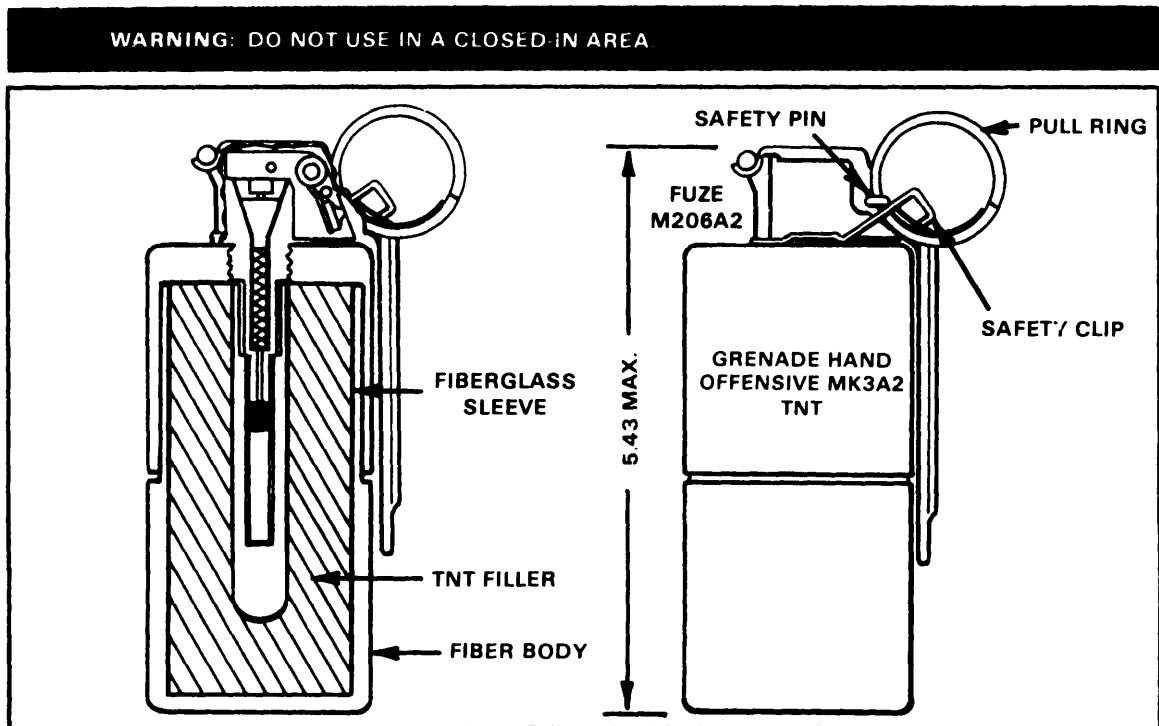

Figure 1-17. MK3A2 offensive grenade.
b. Offensive (Figure 1-17). The MK3A2 offensive hand grenade, commonly referred to as the concussion grenade, is designed to produce casualties during close combat while minimizing danger to friendly personnel. The grenade is also used for concussion effects in enclosed areas, for blasting, or for demolition tasks. The shock waves (overpressure) produced by this grenade when used in enclosed areas are greater than those produced by the fragmentation grenade. It is, therefore, very effective against enemy soldiers located in bunkers, buildings, and fortified areas.
- (1) Body -- fiber (similar to the packing container for the fragmentation hand grenade).
- (2) Filler -- 8 ounces of TNT.
- (3) Fuze -- M206A1 or M206A2, see paragraph 1-4.
- (4) Weight -- 15.6 ounces.
- (5) Safety clip -- yes, see paragraph 1-3.
- (6) Capabilities -- can be thrown 40 meters by average soldier. The MK3A2 has an effective casualty radius in open areas of 2 meters. Secondary missiles and bits of fuze may be projected as far as 200 meters from the detonation point.
(7) Color/markings -- black with yellow markings around its middle.